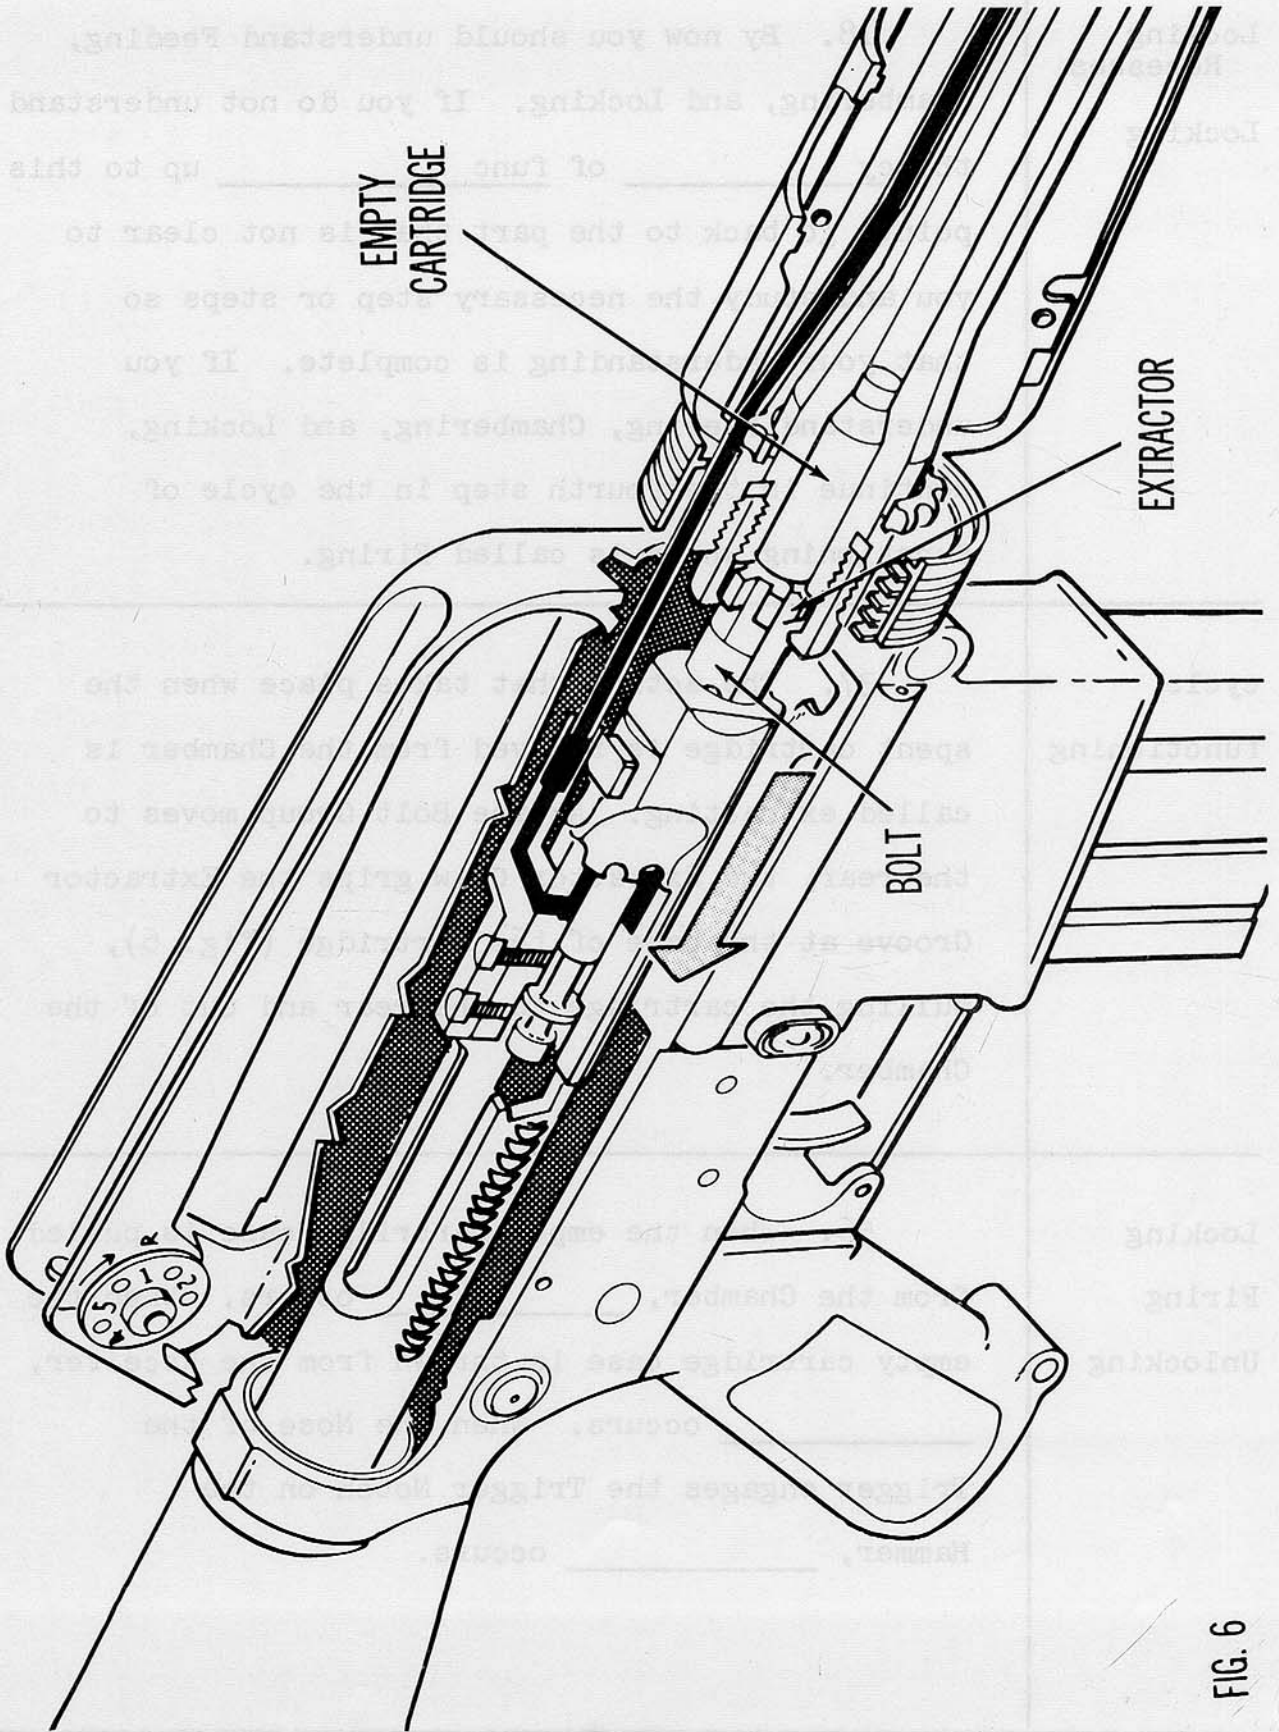

FIG. 6
37. The action that takes place when the spent cartridge is removed from the Chamber is called extracting. As the Bolt Group moves to the rear, the Extractor Claw grips the Extractor Groove at the base of the cartridge (fig. 6), pulling the cartridge to the rear and out of the Chamber.